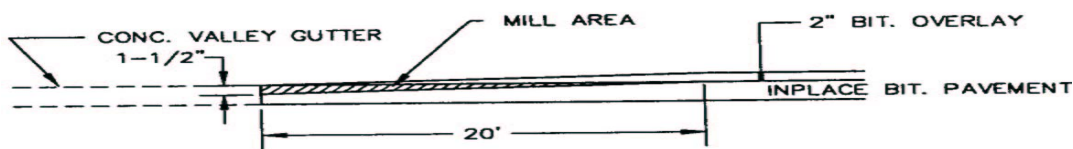

Figure 5. Taper Cut for Overlay
12. A taper cut at curb (Figure 5) is commonly used in HMA overlay applications as opposed to feathering the side edge of an overlay course. When the overlay is applied, the result is a densified uniformly thick vertical butt joint of HMA that will last longer and provide enhanced performance over the feathered edge. The procedure offers a gradual pavement slope, maintaining the cross slope profile with no loss in curb.